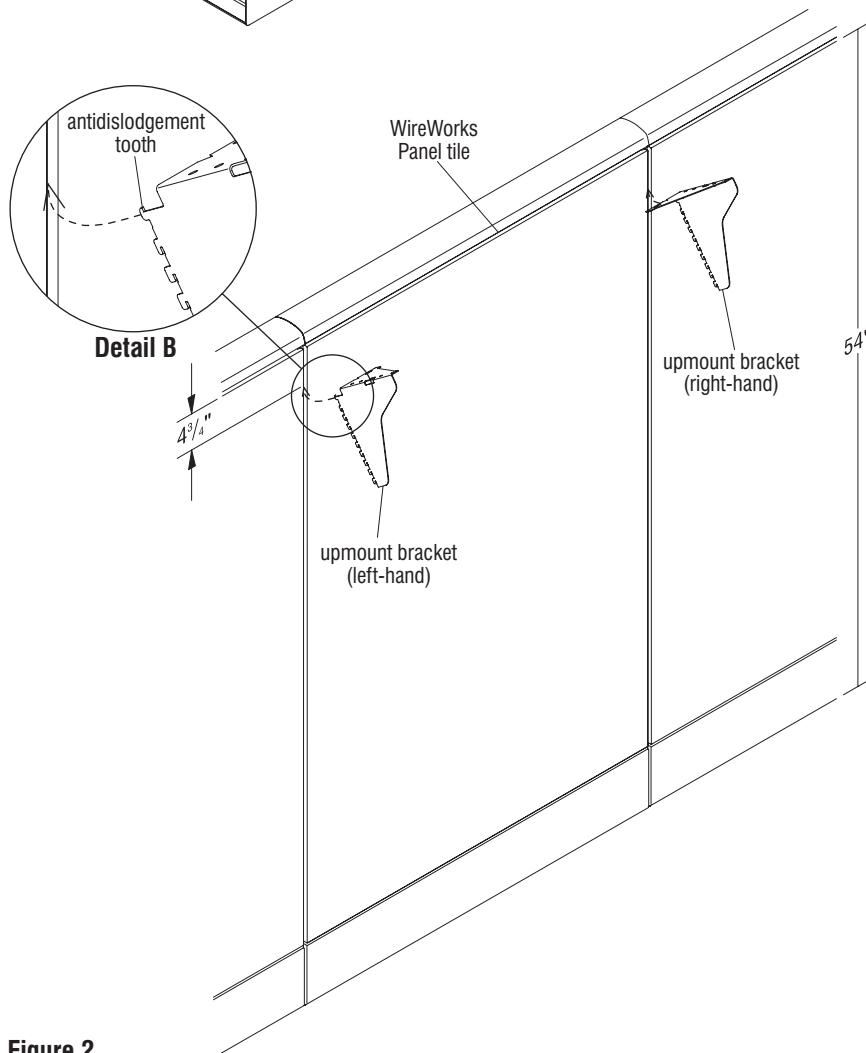

Figure 2
4. Determine the height for the Universal cabinet using upmount brackets. The top of the bracket will locate the bottom of the cabinet at that height. For 54" tall WireWorks panels, locating the top antidislodgement tooth in the sixth slot from the top of the frame (so there is $4 \frac{3}{4}$ " space to the top of the panel tile), will position the bottom of the overhead cabinet at 20" above a 29" high worksurface (Figure 2).
5. To install upmount bracket, engage the top antidislodgement tooth into the panel frame by holding the bottom of the upmount bracket out about 30°, then rotate the bracket down to engage all the remaining teeth. When all teeth are engaged, press down on the upmount bracket to lock in place. Repeat for bracket at other side (Figure 2).